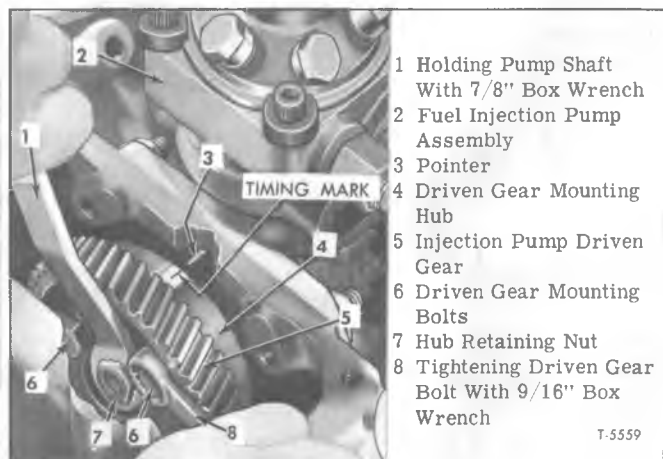

Figure 13—Using Wrench to Hold Pump Shaft While Tightening Drive Gear Bolts
1. With engine crankshaft positioned for firing on No. 1 cylinder (refer to Steps 3 and 4, under "Checking Injection Timing" previously) use a 7/8-inch wrench and 9/16-inch box end wrench as shown in figure 13 to loosen three driven gear mounting bolts (6, fig. 13).
2. With bolts (6, fig. 13) loose, and engine in time, as in Step 1 previously, use 7/8-inch wrench to turn injection pump shaft and hub as necessary to align mark on hub with pointer (3, fig. 13). Hold the shaft with wrench and tighten driven gear mounting bolts.